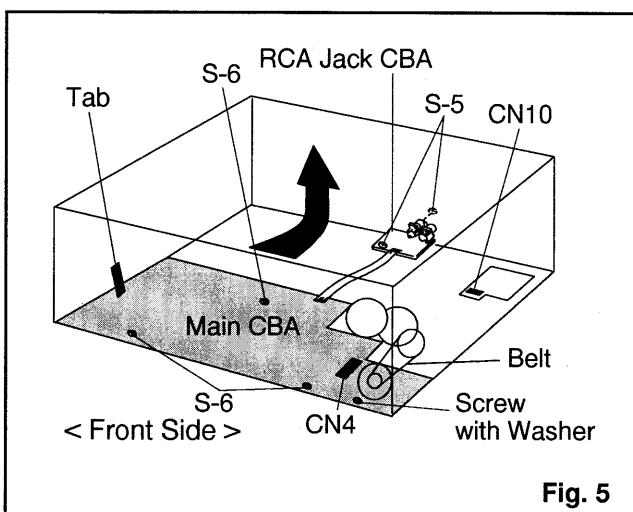

Fig. 5
1. Remove 3 screws (S-6) and the belt. (Fig. 5)
3. Remove 2 screws (S-5). Lift up the RCA Jack CBA. (Fig. 5)
5. Disconnect connectors (CN4 and CN10) (Fig. 5)